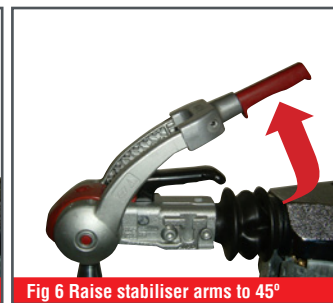

Fig 6 Raise stabiliser arms to 45°
- 2 With the 4x4 handle in place, raise the stabiliser arms 45° to disengage the friction pads from the towball (Fig 6).